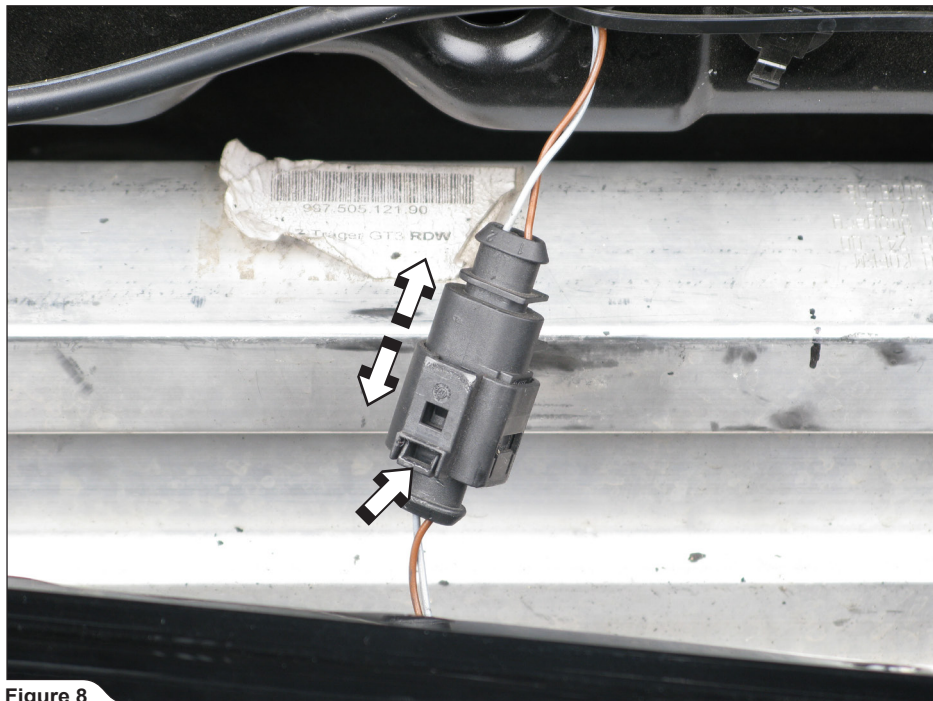

Figure 8
5. **For Slip-On, Sports Cup, Evolution and Evolution-Race:** undo the number plate's light connector and remove the rear bumper (Figure 8).